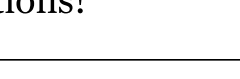

Figure 24
- Replace the handle so that the safety stop override button is at the 12:00 position. (See Figure 24.)